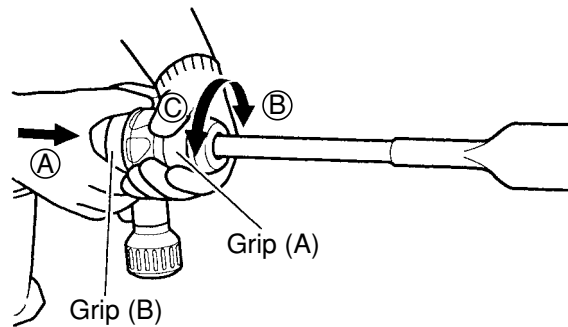

Fig. 10
The tool swivel angle can be easily changed in 12 steps. The tool swivel angle can be set freely to the desired position by pushing out grip (B) ahead in (A) direction and then turning grip (A) in (B) or (C) direction. (Fig. 10)